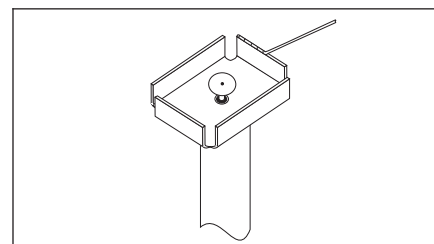

Figure 2 Tin Tip
9. Tin bottom edge of tip with solder. (See Figure 2.)